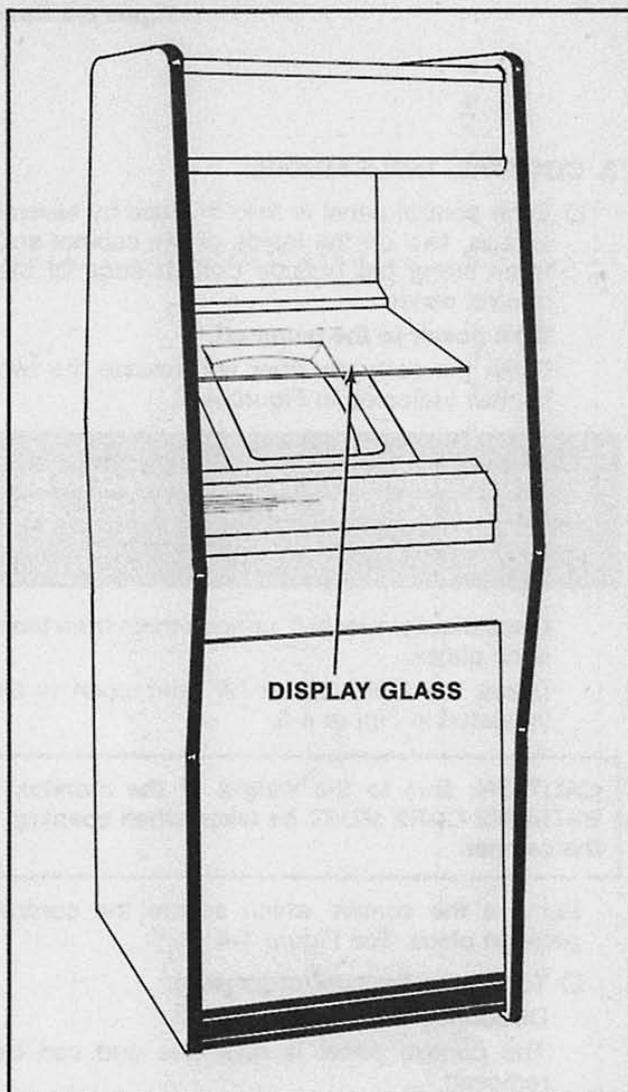

Figure 4-6 Removing Main-Display-Glass & T.V. Bezel — Upright
- By putting your finger in the hole in the middle of the main-display-glass suport, you can lift it up and out. See Figure 4-6.